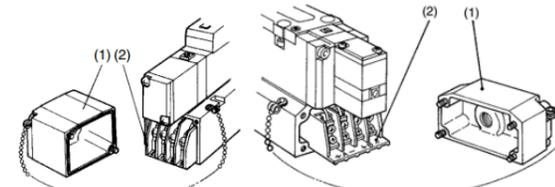

Figure 11. Plug-in (conduit terminal) electrical connection
- Refer to figure 11, remove cover (1), terminal block (2) is attached to the inside of the body.
- For a valve with indicator light and surge voltage suppressor, pull out the light and surge voltage suppressor substrate (3) in a straight direction before connecting wiring.